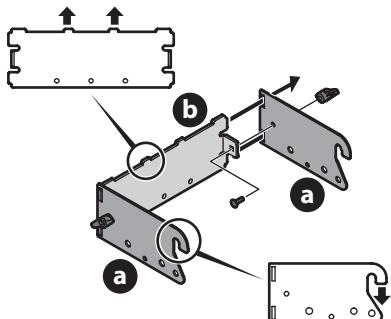

Figure 1
1. Put together the rider hitch bracket assembly (689-00304A) by attaching the two hitch side brackets (a) to the rear plate (b) using two carriage bolts (710-0276) and wing knobs (720-04122) from hardware pack (689-02364). See Figure 1.
NOTE: The hooks on the side brackets (a) should point downwards and the tabs on the rear plate (b) point upwards as shown in Figure 1.